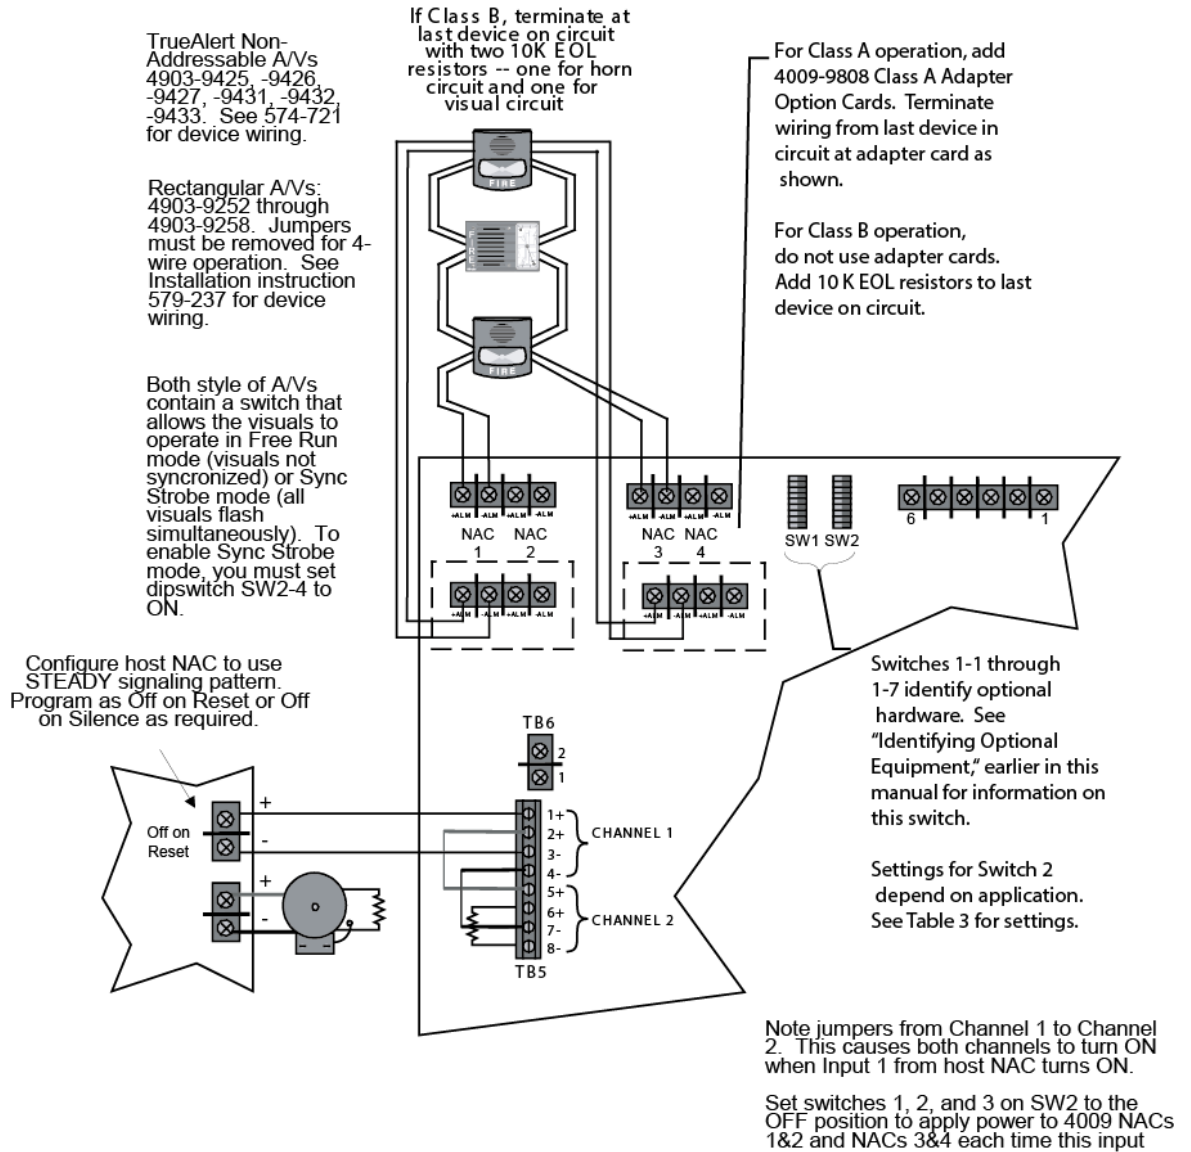

Figure 8. Class A or B NAC Operation – Single Host Input, Wiring Example
- Jumper Channel 1 to Channel 2, as shown in Figure 8. This causes both audibles and visuals to track the state of Input 1.